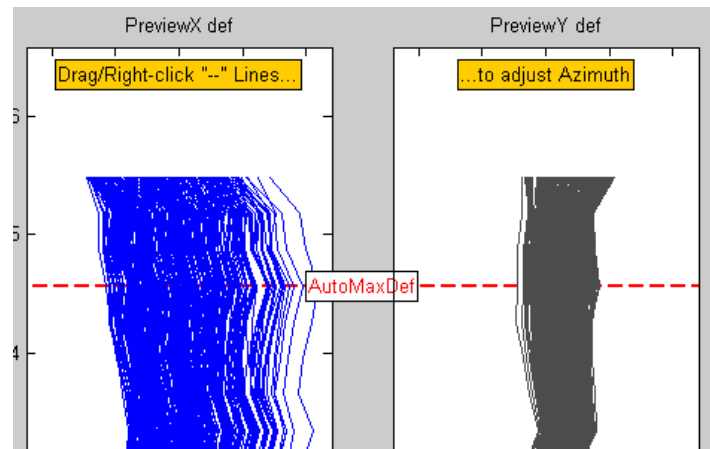

Figure 7.28: Max Deformation option is selected (Project: boston_uk_tides_pz).
- Selecting this option will cause the dashed line to move to the elevation with the maximum deformation. See **Figure 7.28**.